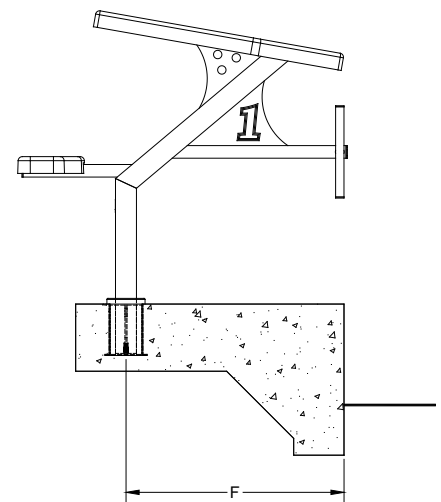

FIGURE 7
2. The setback for the anchor must be set using the correct distance "F" from the pool wall and with at least 6" from any control joint or edge of concrete slab. See **Figure 7**. The correct setback distance depends on the model ordered.
4. When the starting block is installed, the backstroke handles, and leading edge of the footboard shall be flush with the pool wall. Refer to **FIGURES 7**.